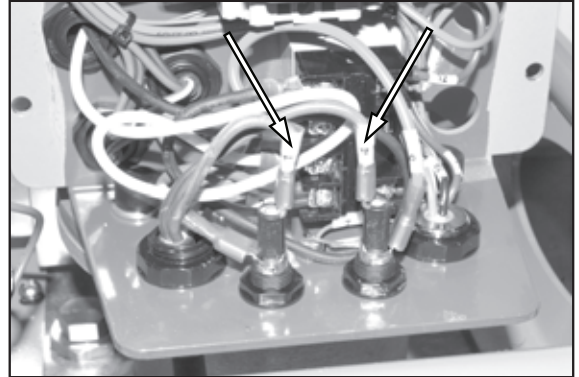

Figure 18.
- See Figure 18. Disconnect the two power wires.